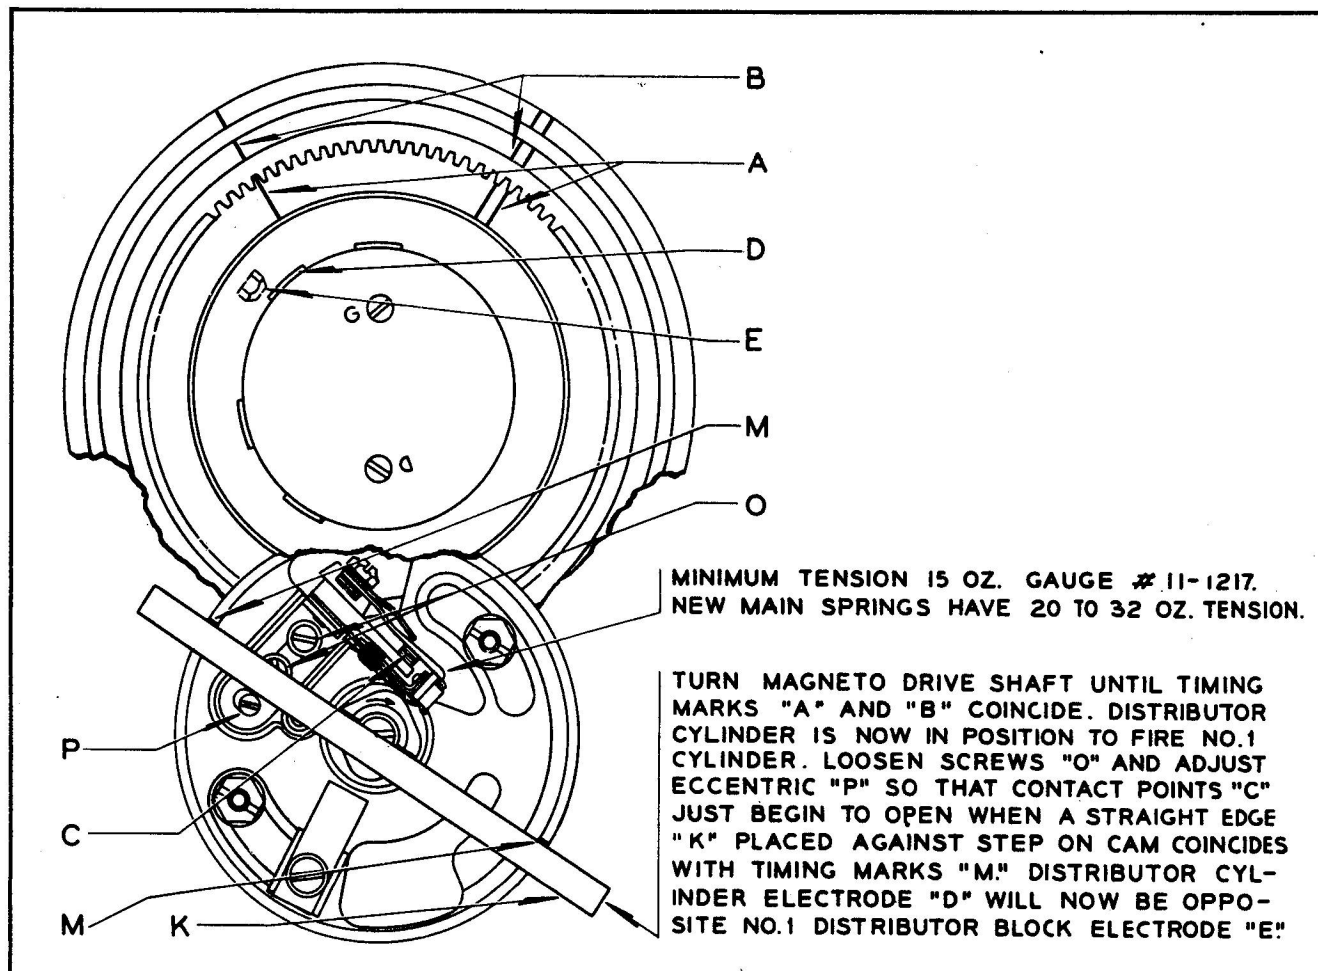

Figure 4—Magneto Timing
b. Remove the distributor blocks and place the breaker in the full advance firing position. Rotate the magneto drive shaft in the direction of magneto rotation until the timing marks "A" (figure 4) on the large distributor gear are approximately opposite the corresponding timing marks "B" on the inside of the front end plate when a straight edge such as "K" placed on the step cut in the cam coincides with the timing marks
e. Adjust the timing so that the contact points just begin to open when a straight edge "K" placed on the step of the cam coincides with the timing marks "M" at the breaker end of the housing. (See figure 4.) It
a. If inspection shows that adjustment is necessary, loosen the two screws "O" (figure 4) which fasten the movable contact support to the breaker plate. Adjust the movable contact point by means of the eccentric screw "P" so that the points just begin to open when the straight edge "K" coincides with the timing marks "M". Tighten the screws "O" when the setting has been made and recheck the adjustment.